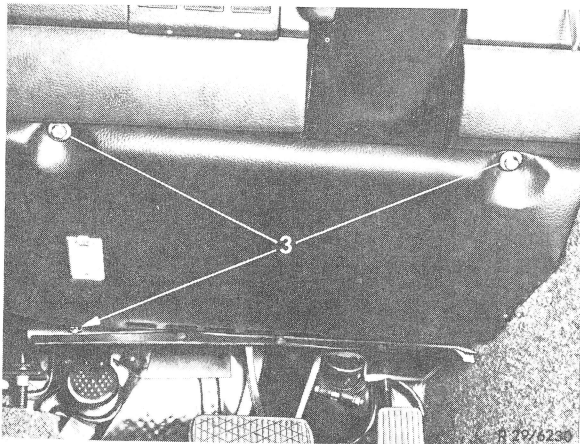

Fig. 4
- 7 Unscrew cover underneath instrument panel in legroom (3) and pull downwards. Remove legroom light (4), remove plug and pull cable out of cover (Fig. 4 and 5).
- 20** Introduce legroom cover and screw down (Fig. 4).